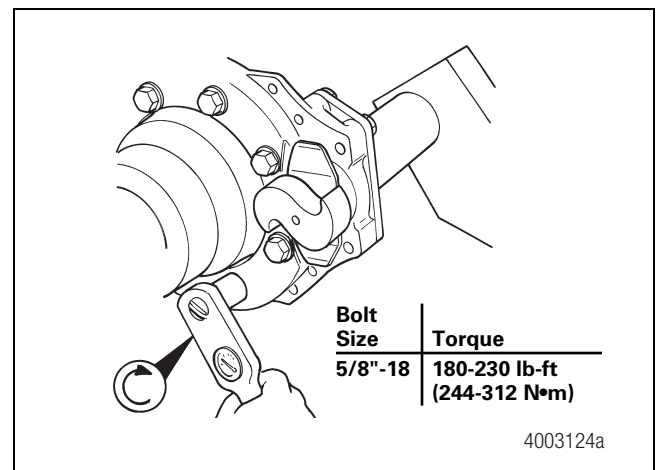

Figure 5.9
1. Tighten all the spider bolts to the correct torque. Figure 5.9.